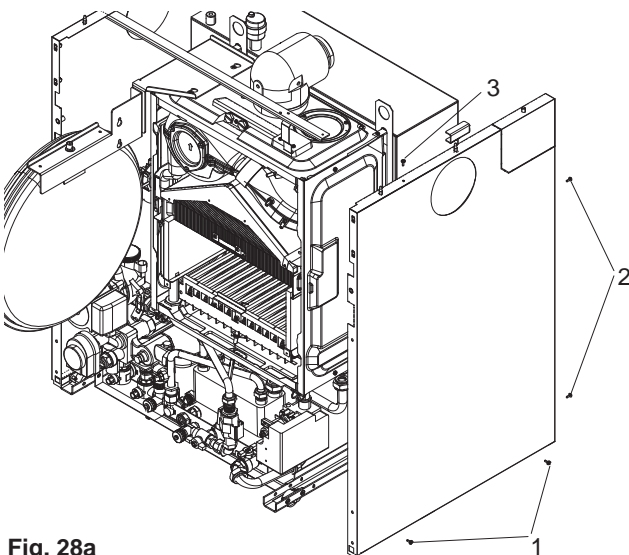

Fig. 28a
**8.7.5** Identify and remove the 5 screws that fasten the right side panel: 2 at the bottom (1), 2 at the rear (2), and one at the top of the panel (3). The right side panel can now be removed from the boiler (see fig. 28a).